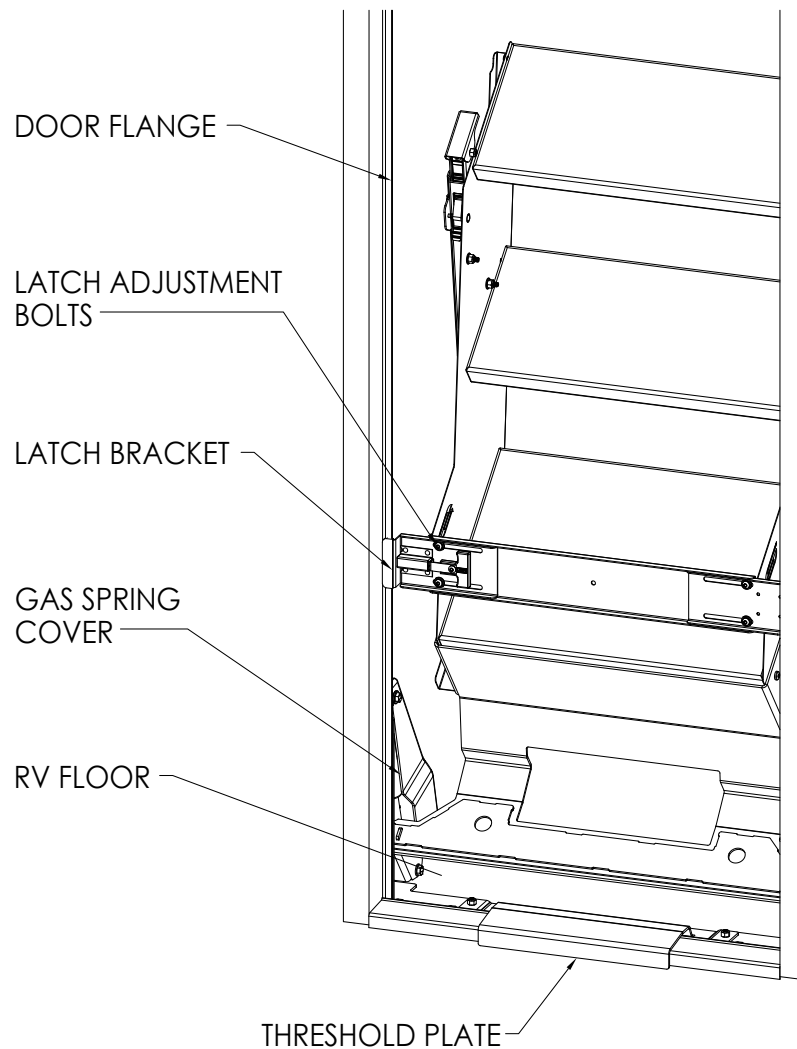

Figure 2
screws through mounting brackets and into floor as shown in **Figure 2**, (screw position A). Installation of screws into slotted holes first allows for fine adjustment of staircase within the door width. It is recommended to drill a pilot hole using a 1/8" drill bit for all floor screws.
6. Double check that the stairs are centered within the doorway. Once satisfied with position, install remaining screws in the mounting bracket as shown in **Figure 2**, (screw position B). Do not overtighten screws.
8. Fully open the door(s) once again, lower the stairs, extend the legs (See **Operating Instructions**), and enter the RV to install the next few screws. Remove gas spring cover. Install wall bracket screws as shown in **Figure 2**, (screw position C). Push threshold plate tight against the threshold and ensure an even gap exists between the sides of the threshold plate and main hinge plate. Lift stairs to the fully retracted position and secure threshold using screws through the two holes as shown in **Figure 2**, (screw position D). Be sure to maintain the position of the threshold cover during this step.